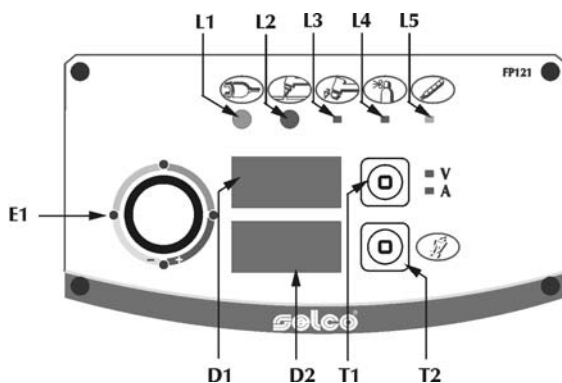

Fig.1
4.1 Front control panel (Fig.1)